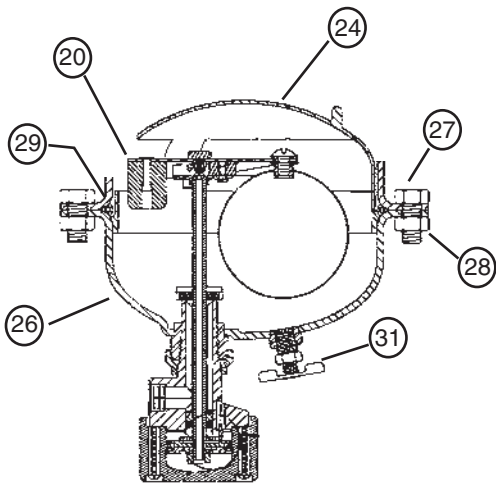

FIGURE 7
2. Depressurize drain by opening manual drain valve (31).
4. Figure 7 - Remove nuts (28) and bolts (27) and separate top and bottom shell assemblies. Remove seal ring retainer (24) and case seal ring (29). Figure 6 illustrates o-ring and ring retainer for carbon steel models.
5. To rebuild drain mechanism, refer to Figure 7.
- a. Remove six screws (14) from piston cylinder (13) and remove cylinder.
- b. Remove nut (19) and lock washer (11) from bottom of valve stem assembly. For carbon steel models remove piston disc (9 & 10), piston seal (8), and key washer (7) from valve stem assembly. For stainless steel models piston is a single piece.
- c. Remove valve stem assembly (3) from valve body (2) by lifting valve stem assembly upwards.
- d. Remove retainer clip (36) and pivot pin (17) and lift float arm assembly (15) off of valve stem assembly (3).
- e. Remove pilot valve screw assembly (18) from float arm assembly and replace with a new assembly from the repair parts kit. Reassemble float arm assembly to valve stem assembly using new pivot pin and retainer clip from repair parts kit.
- f. Remove valve sleeve (5) from valve stem assembly and replace valve disc (4) with new disc from repair parts kit.
- g. Replace sleeve seal ["V" ring] (6) on valve sleeve making sure "V" shape is in the same position as shown in Figure 7 - Detail A on drawing.